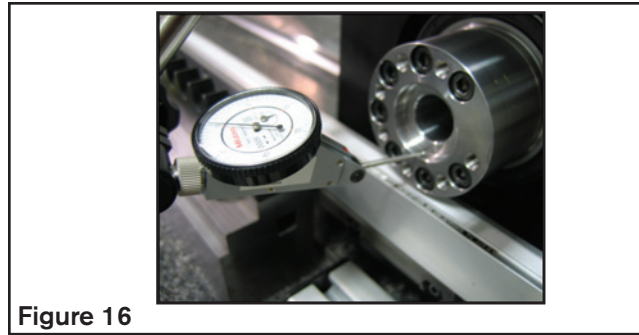

Figure 16
6. Apply a serviceable thread locking compound to the adapter mounting screws then assemble the adapter to the gearhead, leaving the mounting screws snug but do not tighten at this time as shown in Figure 16.
7. Position a dial indicator at bottom dead center of the pilot bore wall as shown in Figure 16 and zero the indicator. Rotate the assembly slowly by using the gearhead input shaft a minimum of one complete revolution while noting the dial indicator runout and mark the angular location in which the lowest reading occurs throughout the rotation.